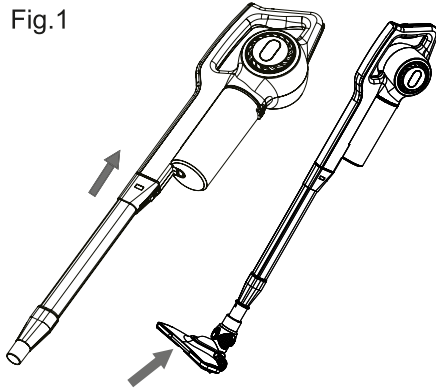

Fig.2
- ◆ To disconnect the extension tube from the vacuum cleaner, press the button to disconnect the tube from the main body where is situated in the rear side and pull the extension tube. (Fig.2).